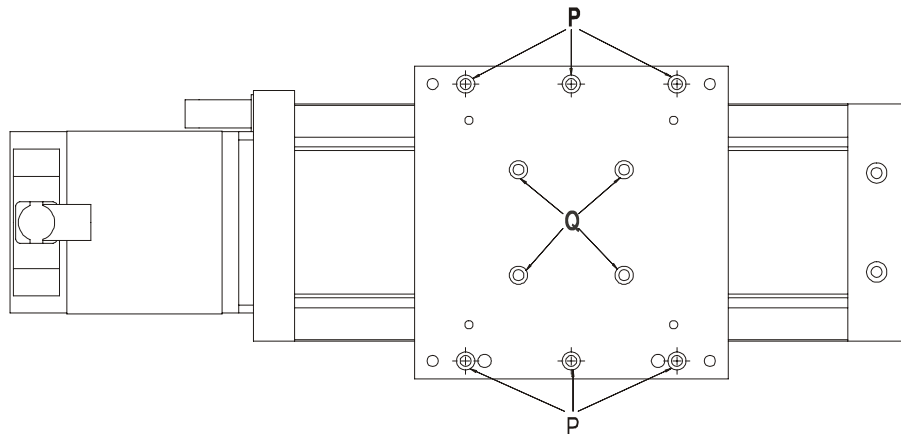

Figure 30: M142 S, Linear Bearings on the End Plate Side
- Separate the clamping blocks from the carriage plate by undoing the fastening screws (*Figure 30, P*) and pull out towards the end plate side.
- Separate the carriage from the driver by undoing the fastening screws (*Figure 30, Q*)